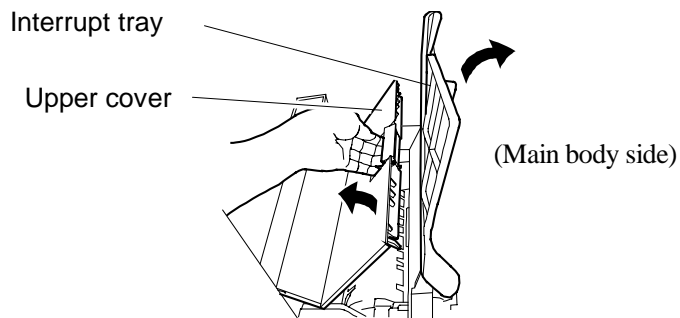

Fig. 4
- 4) Remove the separation tray, and open the upper cover (Fig. 4).